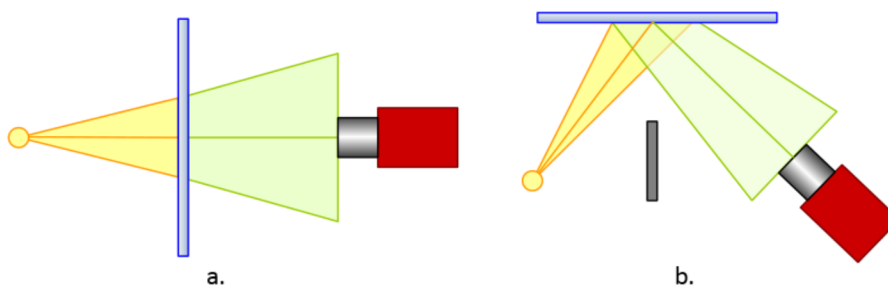

Figure 1. Changes in chromaticity of light: transmittance (a) and reflectance (b)
- Light transmission through transparent or translucent materials – *transmittance*, and/or reflection of light – *reflectance* (see Figure 1)